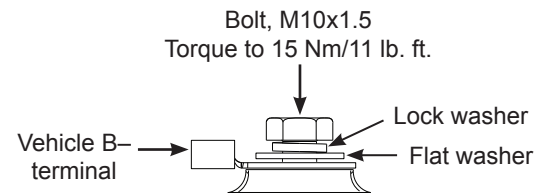

Figure 3: B- Terminal Hardware Stacking Order
6. Connect battery B- cable to alternator B- terminal. Install terminal hardware in stacking order shown in Figure 3. Torque hardware to 15 Nm/11 lb. ft.